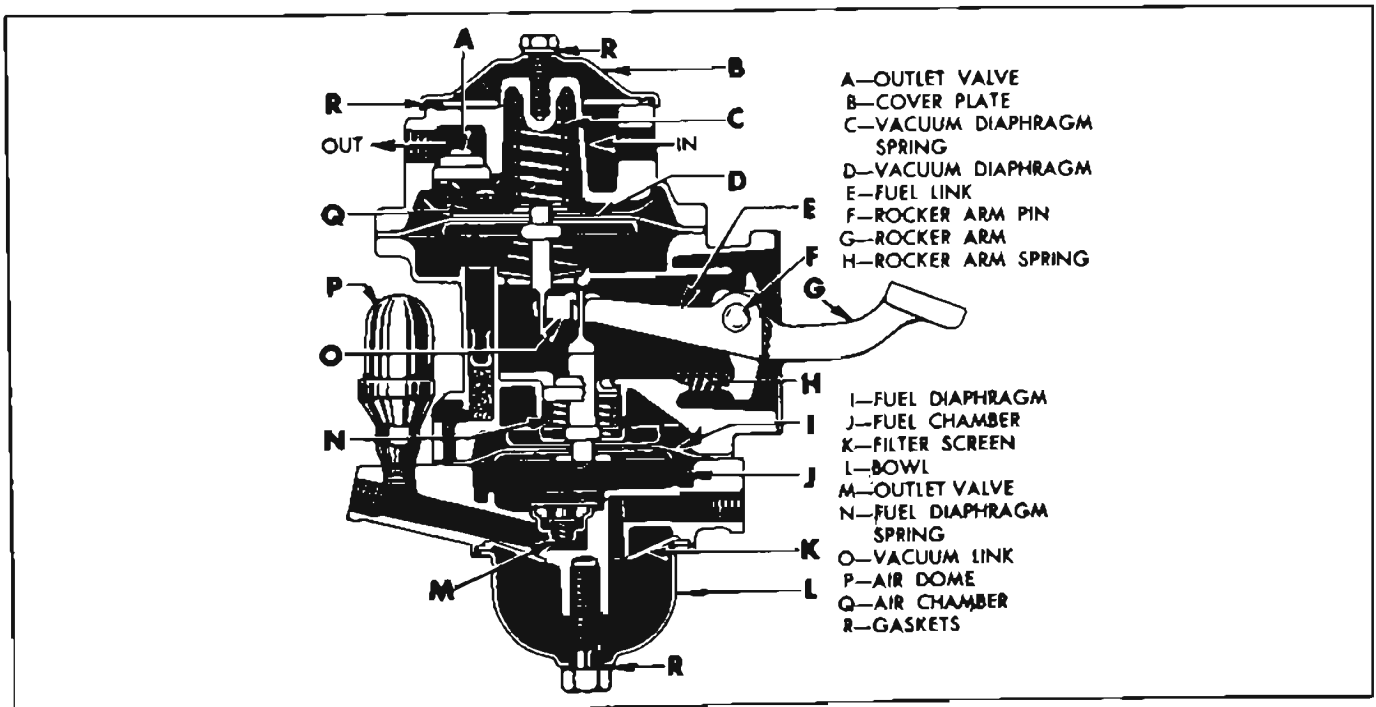

Figure 3-15—Combination Fuel and Vacuum Pump—Sectional View
shaft which actuates the pump rocker arm. The single rocker arm actuates both the fuel and the vacuum sections of the pump through separate links which permit each section to function independently of the other section. See figure 3-15.
section of the pump. See figure 3-15. Fuel from the gasoline tank first enters the bowl then flows upward through the screen into the fuel pump. The bowl provides a settling chamber for water and the dirt which cannot pass the screen. The bowl and screen should be cleaned periodically (par. 3-7).
The pump rocker arm (G) is actuated by an eccentric on engine camshaft. The arm is held in contact with the eccentric by the rocker arm spring (H). Movement of rocker arm is transmitted to the fuel link (E) which pulls the fuel diaphragm (I) upward from the fuel chamber (J) against pressure of the diaphragm spring (N). See figure 3-15.
The pump rocker arm (G) is actuated by an eccentric on engine camshaft. The arm is held in contact with the eccentric by the rocker arm spring (H). Movement of rocker arm is transmitted to the vacuum link (O) which pushes vacuum diaphragm (D) upward into air chamber (Q) against pressure of the diaphragm spring (C). See figure 3-15.
3. Remove only two cover screws from opposite sides of the cover, and substitute for them two No. 10-32 x 1½" fillister head screws. Turn the two long screws all the way down, and then remove the balance of the short screws. Alternately back off the two long screws, a few turns at a time, until the force of the heavy vacuum diaphragm spring is no longer effective. If cover and body stick together, rap cover with screwdriver handle after backing off long screws a few turns; do not pry between the flanges. Remove long screws, vacuum cover assembly, diaphragm spring and spring retainer. See figure 3-15.